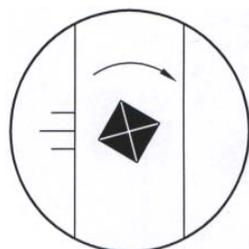

Figure 6-19 *Incorrect image*
6. If the image is as Figure 6-19 illustrates, you have to loosen the screw and slightly turn the indenter, conduct the step 2-4 until you get the correct image.